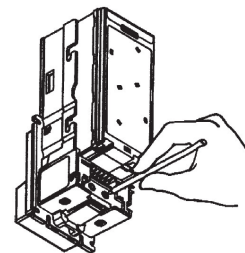

Figure 6
**3. Locate the service button** on the back of the unit (refer to Figure 6).